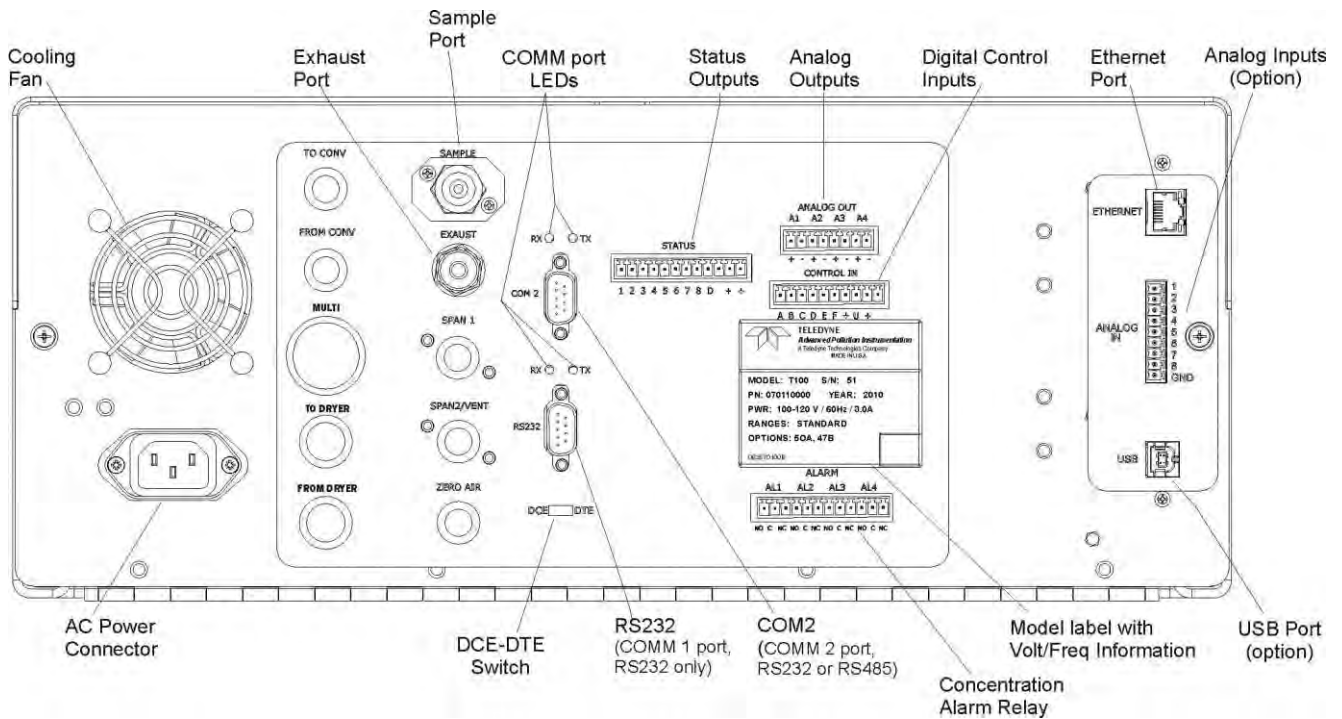

Figure 3-4: Rear Panel Layout – Base Unit
**To avoid damage to your analyzer, ensure that the AC power voltage matches the voltage indicated on the analyzer's model/specs label (Figure 3-4) before plugging the T200 into line power.**